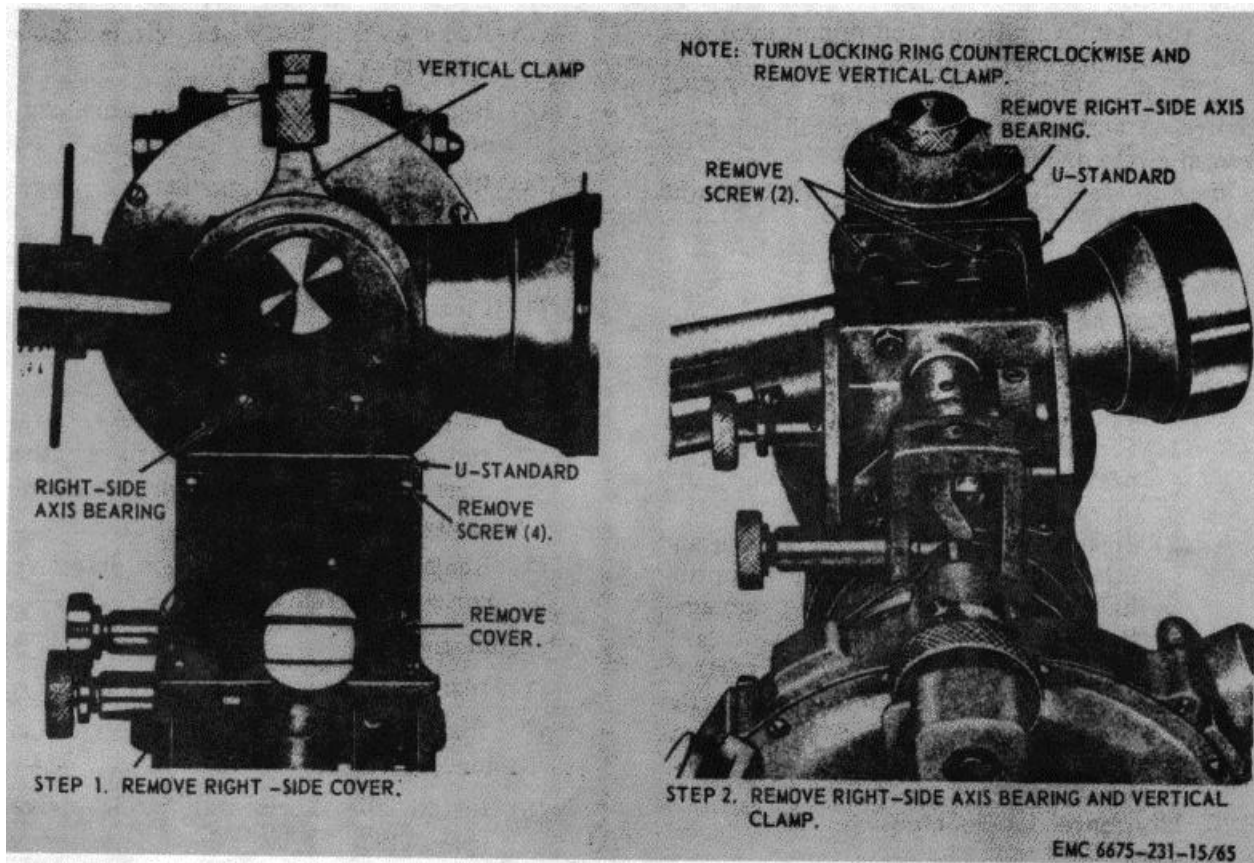

Figure 67. Right side axis bearing and vertical clamp, removal and installation.
(1) Remove the micrometer (par. 106).
(2) Remove the vertical slow-motion screw (par. 108).
(3) Remove the inverter prism (par. 100).
(4) Refer to figure 67 and remove the right side axis bearing and vertical clamp.
- (1) Refer to figure 67 and install the right side axis bearing and vertical clamp.
- (2) Install the inverter prism (par. 100).
- (3) Install the vertical slow-motion screw (par. 108).
- (4) Install the micrometer (par. 106).